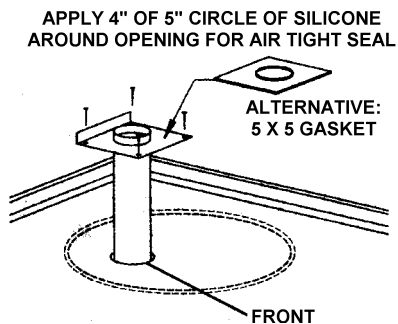

FIGURE 10.
3. Insert the duct assembly as shown in Figure 10 with lip facing forward, and using only nails, secure the duct assembly to the floor.